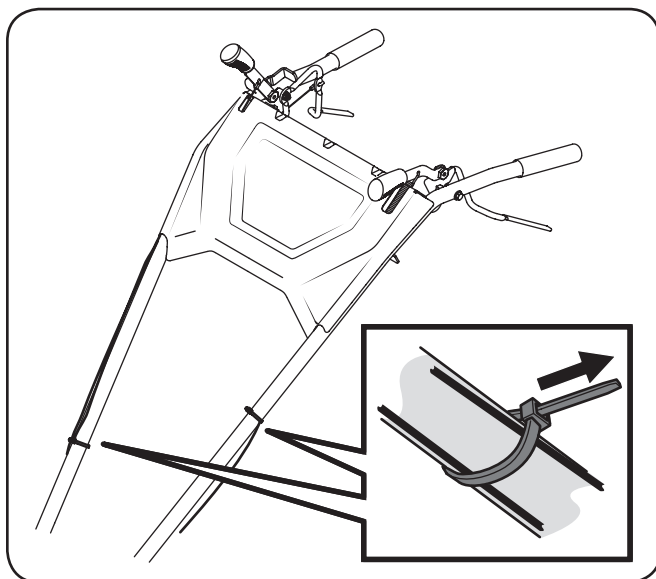

Figure 3-6
13. Secure the wires and cables to the handles by using the two cable ties from the hardware pack as shown in Figure 3-6.